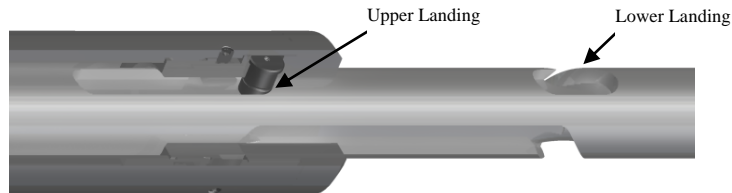

Fig. 7
K-3.24) Rotate and move J-slot mandrel (20) downwards to move J-pins (15) to upper landing in slot on J-slot mandrel (20) (Fig. 7).
**CAUTIONs:** Compression spring (4) is compressed with spring tension against upper slip body assembly.